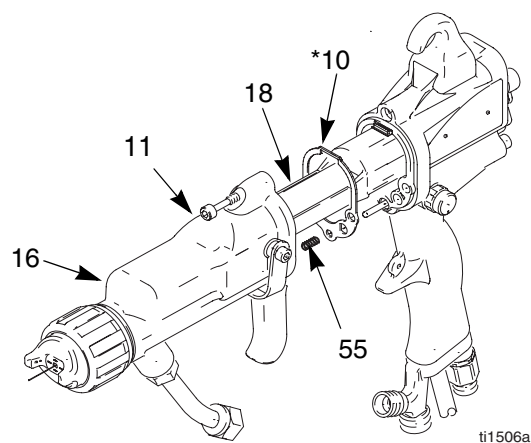

Fig. 16. Barrel Installation
1. Be sure the gasket (10*) and grounding spring (55) are in place. Make sure the air holes are aligned properly. Replace if damaged. See FIG. 16..
2. Place the barrel (16) over the power supply (18) and onto the gun handle (17).
3. Tighten the three screws (11) oppositely and evenly (about a half turn past snug).